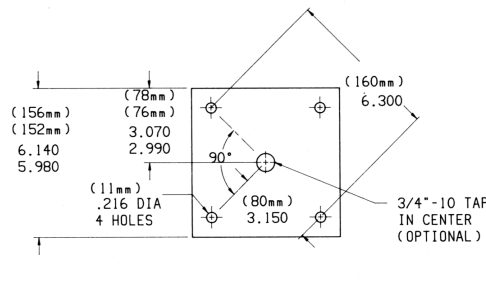

FIGURE 9 BEARING PRESSING FIXTURE
- 6A. Remove cap screws item (93) and water cooling hosing item (278). Discard O-ring item (140&279). Remove cap screws item (62). Use two as jacket screws and remove seal housing item (91). Tap out seal item (76B) and discard O-ring item (92). Remove mating ring portion of seal item (76A).
7. The gear end cover item (6) also as jacking screw holes but it must slide off a spherical bearing and two dowel pins. Use appropriate length screws and a support sling. See figure 9 for on Special Tool Drawings for a bearing alignment tool which can be helpful in cover removal.
8. Remove retainer ring item (47) and pull bearing item (50) from drive shaft.
9. Remove cap screws item (66) and the drive shaft item (45). Jack screw holes are available for easy removal.
10. Remove cap screws item (29) and rotor shaft washer item (25). On the top drive unit only, a slinger item (395) sandwiched between two washer item (25) is used on the lower rotor. Please note the position before removing.
11. Remove the timing gears item (8). Either gear may be used as the drive gear. Normally the solid gear (right hand helix) will be the drive gear. The two piece gear (gear shell and hub) will be the driven gear. Align the match marks and remove the cap screws in the two piece gear. Using a suitable puller, remove the gear shell from the hub. Never use excessive force to remove. A slight rocking motion while pulling the gear will ensure that jamming has not occurred. If jamming does occur, tap gear back on until free moving and recheck location of the timing marks. Using the same puller, remove the gear hub and solid gear.
12. Remove cap screws item (62) and retainer rings item (14).
13. Stand blower its free end on 4x4 blocks and remove mounting feet item (304).
14. Remove the end plate cap screws item (26). The end plate, with the bearing must be pulled from the rotor shafts. Use two fixtures as shown in Figure 9 of the Special Tool Drawings on page 16. Secure each fixture to the bearing retainer bolt holes and apply pressure to the end of the rotor shaft with the center screws or the nuts on the threaded rod. The pressure must be applied equally to each shaft. When end plate is removed, tap out bearing seals. Remove retainer rings item (219) and tap out labyrinth seals item (51).
16. Remove cap screws item (62), oil retainer ring item (15), and end plate cap screws item (26). Remove the end plate using the same tool as were used on the gear end. Remove the bearings and seals. Discard all O-rings item (233).
17. Lift the rotors out of the housing, Unbolt the gears end plate and lift the housing item (2) off.
- 3a. Follow instruction for lip seal but do not grease. Install carbon up. On the free end plate be sure the spacer item (55) is in place before installing the seal. If no press is available the bearing pressing plate Figure 9 on Special Tool Drawings can be used. Care must be given taken that no sealer is left on the carbon. Clean with soft tissue and cleaning agent (acetone) if necessary. Failure to remove will result in leakage.
23. Clean and remove all burrs from mating surfaces of the gear and drive shaft. Install cap screws item (66) . Check drive shaft run out at the seal. **Do not exceed .003 T.I.R.**
24. Install drive shaft bearing item (50) and retainer ring item (47). If top drive unit install oil slinger item (395) and washer item (25) at this time.
25. To aid in the installation of the cover item (6) a tool as shown in Figure 9 of Special Tool Drawing should be made to hold the outer race of the bearing square with the shaft. Put sealer on the end plate and slide the cover over the tool and secure with cap screws Item (26).